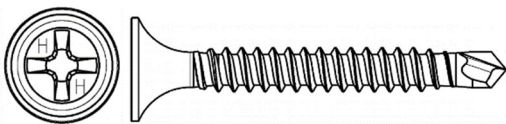

FIGURE 1—PHILLIPS BUGLE HEAD (PBH) SD SELF-DRILLING DRYWALL SCREW
7.1 Hilti Self-drilling and Self-piercing Interior Finishing/Drywall Screws are marked with one or two H marks on the top of the heads, as shown in Figures 1 through 3. Packages of Hilti Self-drilling and Self-piercing Interior Finishing/Drywall Screws are labeled with the report holder’s name (Hilti, Inc.), the fastener type and size, and the evaluation report number (ESR-3891).
¹Refer to Section 3.0 and Figures 1 through 3 for explanation of head configuration abbreviations.